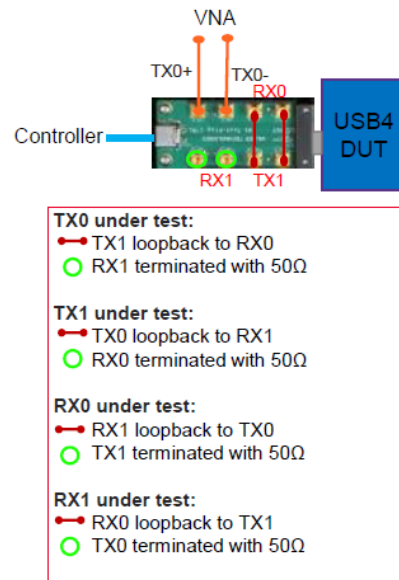

Figure 76 SMP test fixture - Tx/Rx lane switching
- 8 In case of SMP test fixture, Tx/Rx lane under test can be switched as shown in Figure 76.